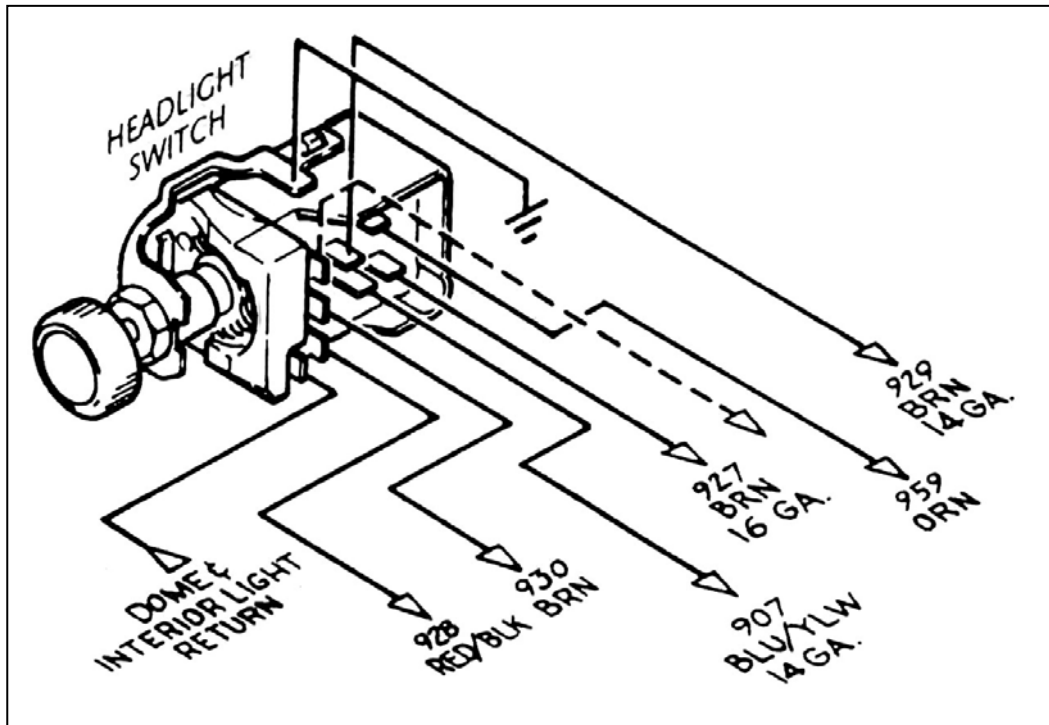

Figure 8.5 HEADLIGHT SECTION B Wiring (GM Style Switch – Painless Part #80152)
- 8.1.1** Interior lights are switched through the optional door switches and/or the dash-mounted headlight switch, which is usually rotated counter-clockwise to turn on. These switches apply ground to the circuit. **YOU WILL NEED TO SUPPLY THE GROUND WIRES** that go to the door switches. We have connected the wire that goes from the light to the headlight switch for you. 12V is continually present at the light bulbs. See **Figure 8.5**.
- 8.1.2** If you are using door switches, you will need to add the wires connecting them. Connect one end of the wire to the door switch and the other end to (wht) at the pigtail under the fuse block. See **Figure 8.5**.
- 8.2.2** Connect HEADLIGHT SECTION A wire #908 (lt.grn) to the green wire of BOTH headlamp connectors. If you have a quad headlamp setup you will need to connect the two high beam headlamps to this wire as shown by the dotted lines in **Figure 8.5**. Connect wire #909 (tan) to the tan wires of both headlamp connectors. Connect the black wires of the headlamp connectors to chassis ground. You should have enough wire to accomplish this. You have been supplied with two small grommets should you need to pass these wires through a fender well. Don't forget to thread them onto the wires BEFORE you connect the wires.
- 8.2.5** Connect the DIMMER SWITCH SECTION cable to the floor mounted dimmer switch. If you have a column mounted dimmer switch, the plug is the same as the floor mount version. See **Figure 8.5**.
- 8.3.1** Connect the 6 wires of HEADLIGHT SECTION B, the dome and interior light return circuit and the headlamp switch ground as shown. Wire #959 (orn) should be connected as shown in **Figure 8.5**. This wire provides power for the taillights and dash lights and is coming from the horn fuse at the fuse panel. The purpose of this wire is in the event of a short in the dash or taillights the headlights will remain working since they have their own separate fuse. If you do not have a GM headlight switch, you should trace out the wires of your existing harness and connect the new harness according to **Table 9-2**.
Note: *On late style GM headlight switches, the park lights terminal to which wire #927 (brn) is connected (shown in Figure 8.5) has been omitted. In this case, wire #927 must be connected as indicated by the dashed line in Figure 8.5.*